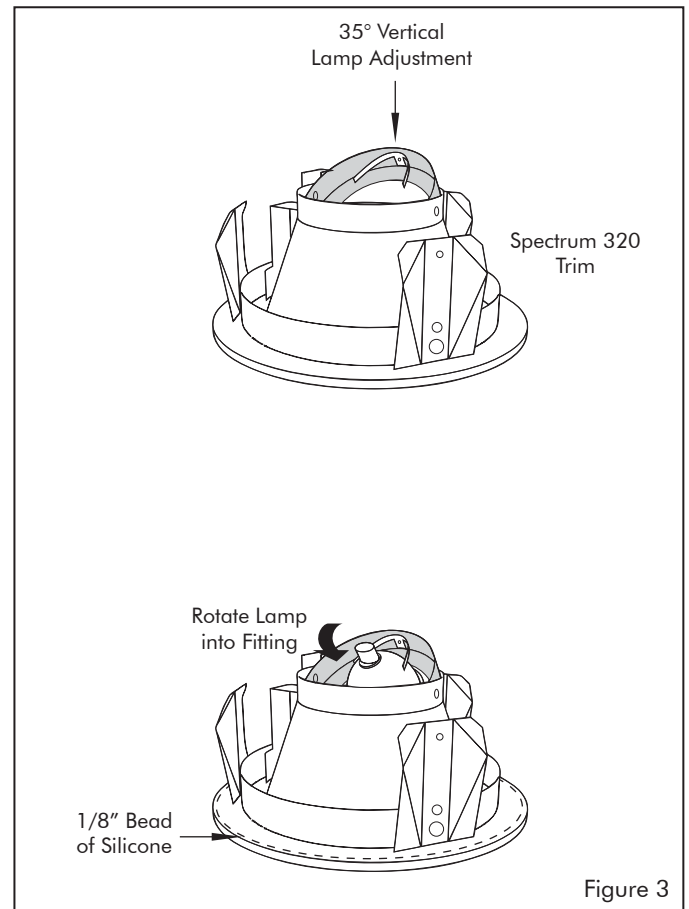

Figure 3
13. Locate Spectrum 320 trim and adjust vertical lamp adjustment to desirable setting, then fit lamp into trim (see figure 3). Lay a thin 1/8" bead of RTV silicone (provided) around the trim perimeter. **Note:** Install trim with clean hands or cloth to prevent staining.